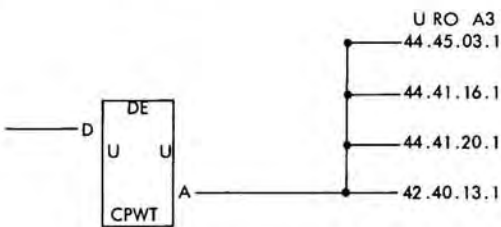

Figure 11. Multiple Outputs—Same Line Name
4. If a line leaves a page and goes to several pages, but carries the same line name, it can be shown as in Figure 11.